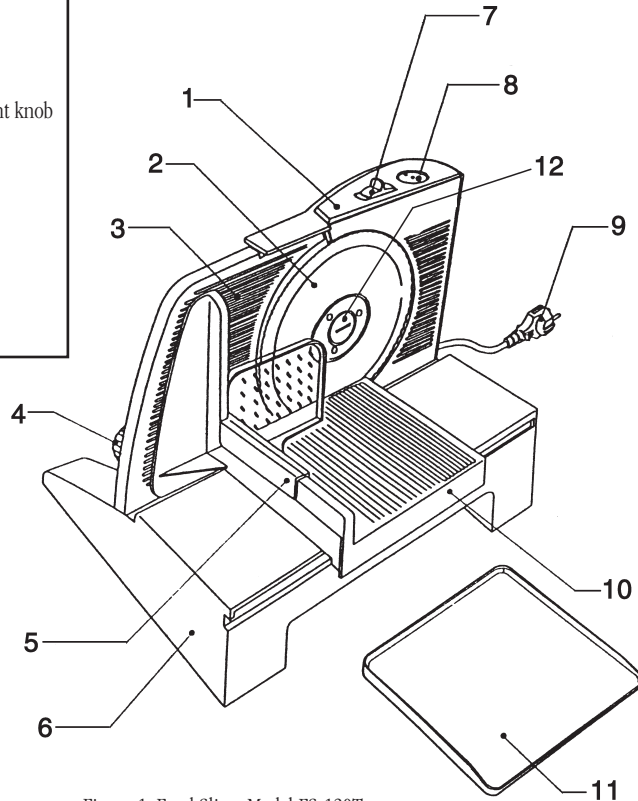

Figure 1: Food Slicer Model FS-120T
1. Place food slicer (Figure 1) on a flat stable surface.